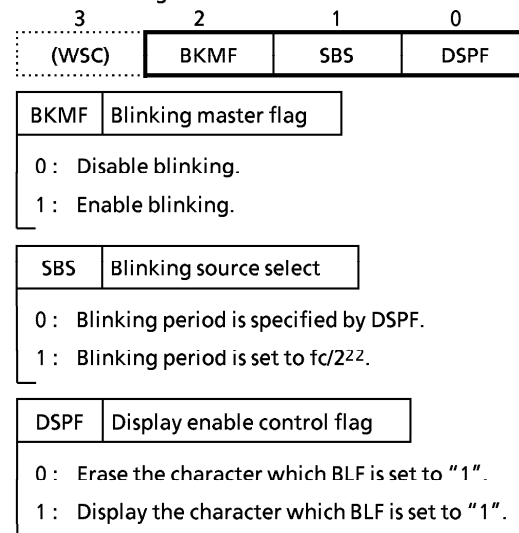
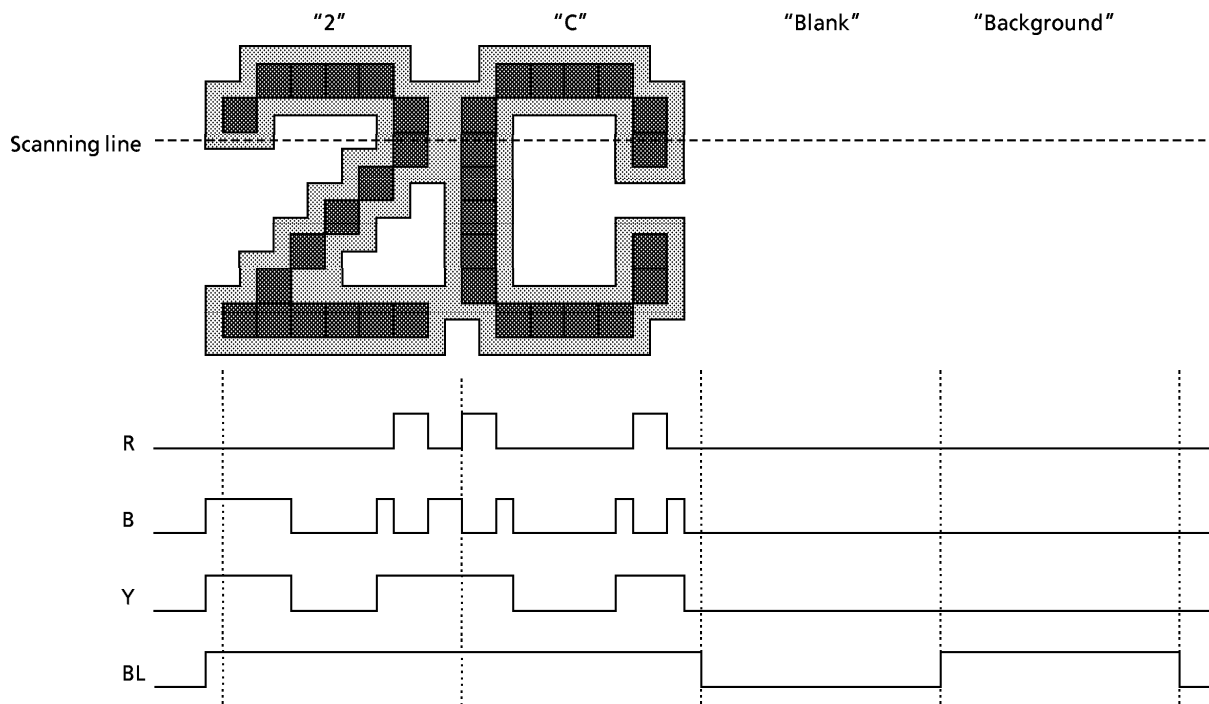

Figure 3-14. Control of Blinking Function
Figure 3-16. Example of OSD Display and Its Wave Form (2)
Figure 3-14 shows display example (1). The conditions for this example are as follows:
- ① Display data: 2, C, blank data (character code 7F_H), background (character code 7E_H).
- ② Color data: RDT = 1, BDT = 0, GDT = 0.
- ③ Background color data: BRDT = 0, BBDT = 1, BGDT = 0.
- ④ Fringing and smoothing disabled.
- ⑤ This screen display example is controlled by the R, B and BL signals.
Figure 3-16 shows display example (2). The conditions for this example are as follows:
- ① Display data: 2, C, blank data (character code 7FH), background (character code 7EH).
- ④ Fringing enabled and smoothing disabled.
- ⑤ This screen display example is controlled by the R, B and Y signals.